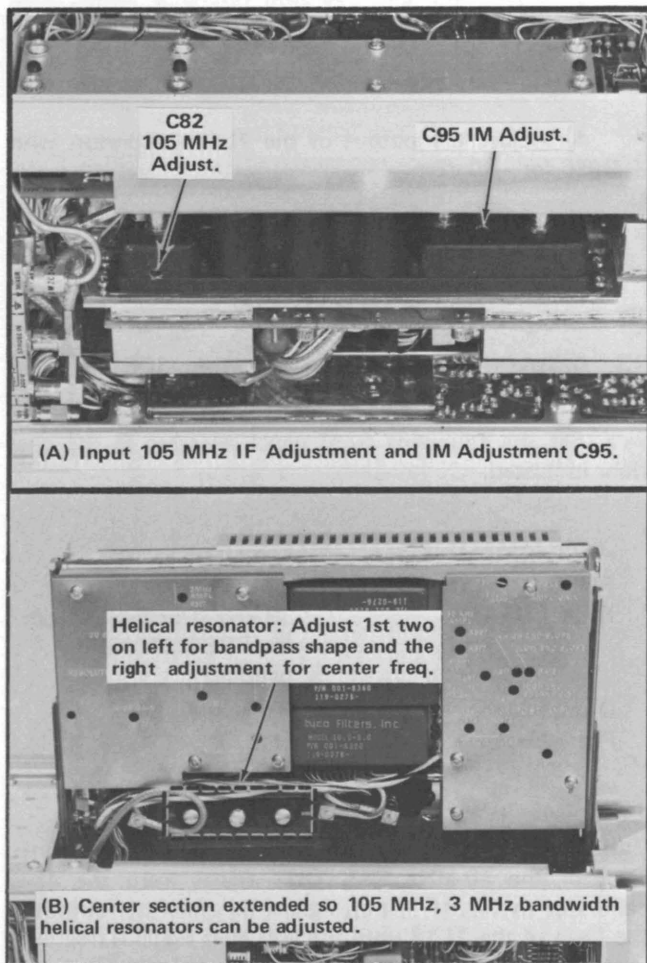
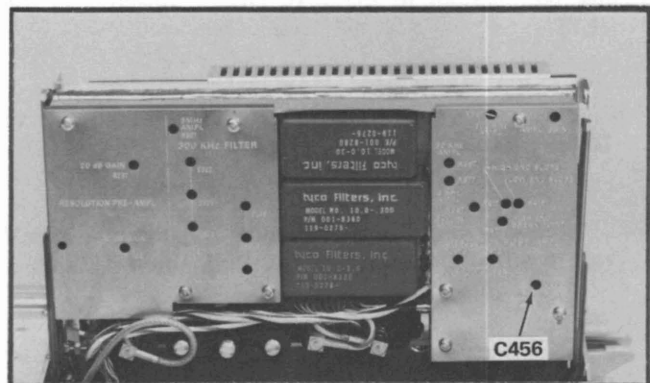

Fig. 4-14. 105 MHz IF and 3 MHz bandwidth adjustments.
Fig. 4-15. Wide band filter adjust C456.
d. Adjust the 105 MHz IF amplifier, and the wide filter bandpass characteristics; with C82, the 3 MHz helical resonator, (Fig. 4-14) and C456, in the filter circuit (Fig. 4-15) for a response that is similar to the illustrated in Fig. 4-17.
3) Adjust C456 (Fig. 4-15) for maximum bandwidth and amplitude.